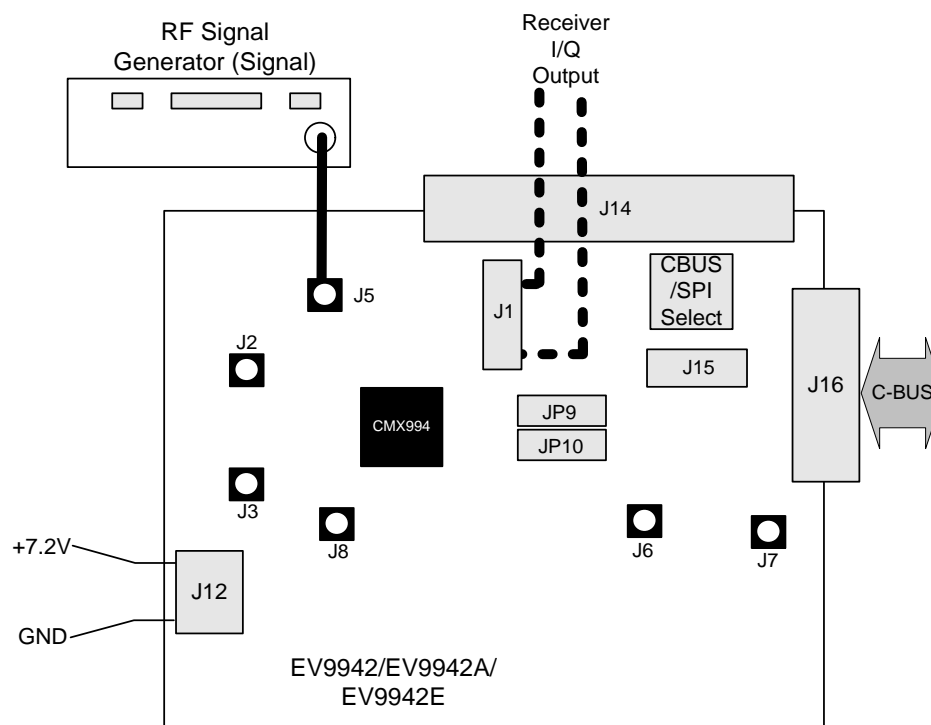

Figure 2 Typical Evaluation Connections for EV9942/EV9942A/EV9942E
1. Connect test leads as shown below in Figure 2.